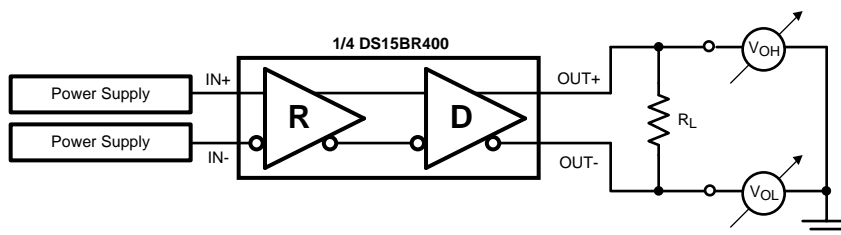

Figure 5. Differential Driver DC Test Circuit
| V OD                               | Differential Output Voltage, 0% Pre-emphasis (2) | R L = 100Ω external resistor between OUT+ and OUT-<a href="#">Figure 5</a>  | 250  | 360        | 500   | mV    |